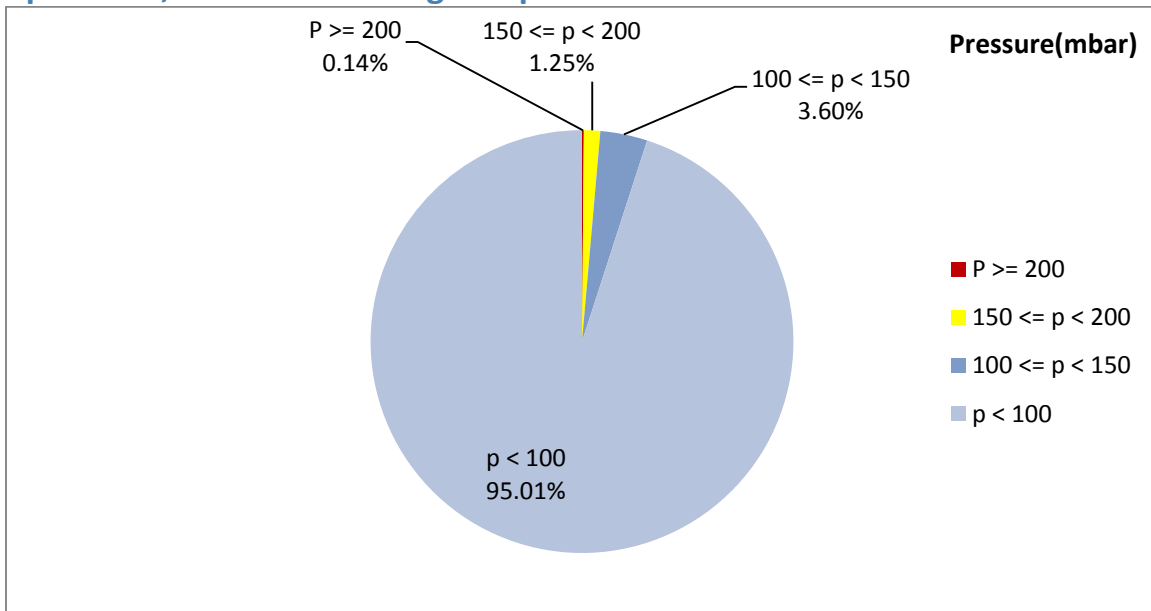

Figure 1- Pressure distribution over the working hours
- As depicted in Figure 1, only 0.14% of total working time pressure is above 200 mbar and 1.39% above 150mbar.